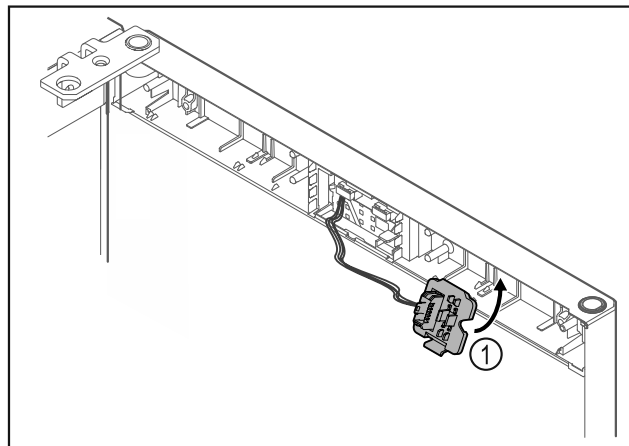

Fig. 23
- Snap in the plug holder Fig. 23 (1) on the opposite side.